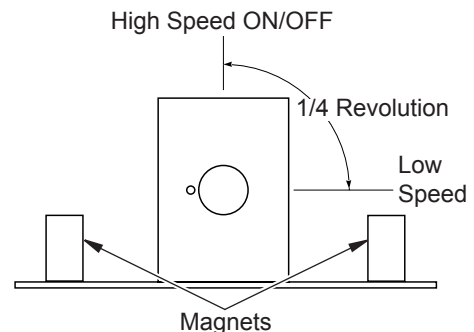

Figure 3 - Blower Speed Control
1. To operate blower, turn the blower speed control knob clockwise to the ON position (see Figure 3). This will be the highest blower speed. Continue turning knob clockwise to reduce blower speed. Turn knob only within the specified range (1/4 revolution, see Figure 3).